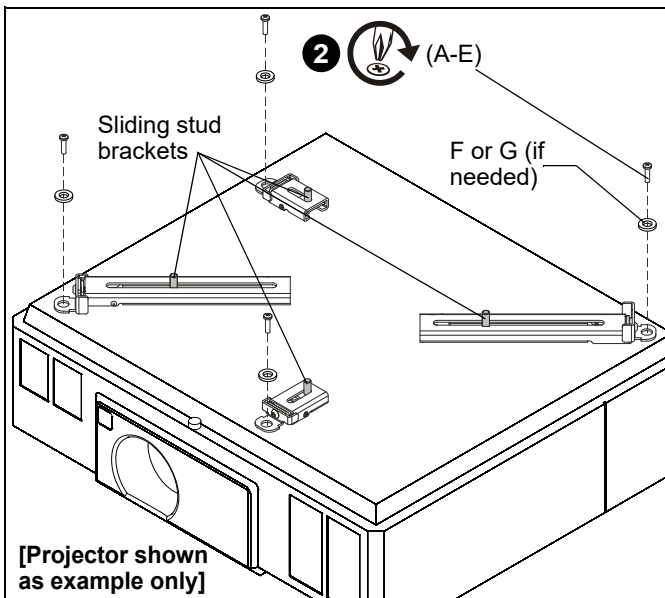

Figure 2
NOTE: Figure 2 shows a possible scenario based on a sample projector. Specific connection points for the interface legs will vary based on the projector hole pattern. Multiple scenarios may be used for each specific hole pattern as long as the weight of the projector is centered and balanced after mounting.
1. Maneuver legs on top of the projector so that sliding stud brackets within legs (P and/or Q) are positioned towards the middle of the projector, and the attachment point of legs are located over threaded holes in projector. (See Figure 2)
2. Select correct screws and spacers (if necessary) from the hardware bag (A-H) and attach legs to top of projector. (See Figure 2)